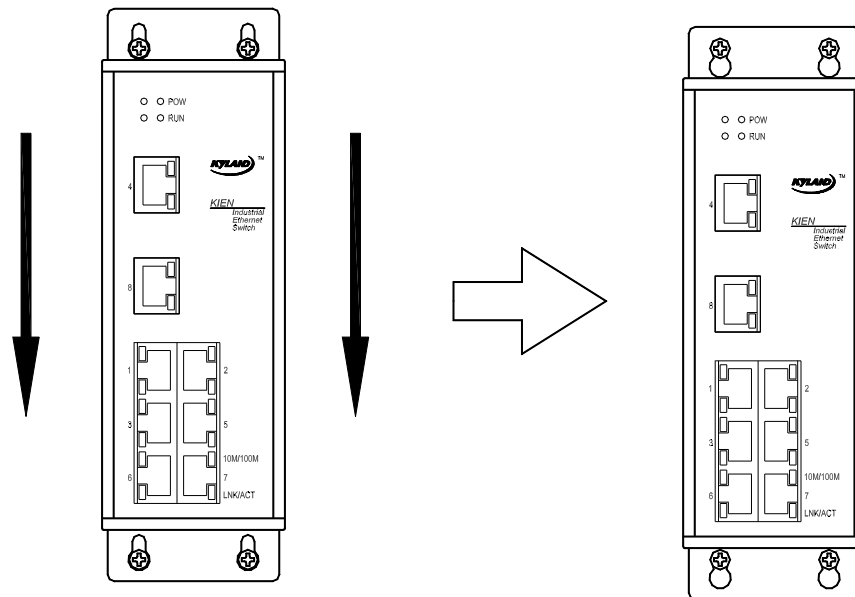

Figure 4-5 Wall Mounting Method
- 4 . After screws are fixed on the wall, mount the switch on the selected position and make 4 screws pass through $4\Phi 6.5$ holes on the wall hanging plate. Slide down the switch, as showed in the Figure 4-5. Screw down 4 screws to fasten the switch on the wall or the internal wall of the switch cabinet.